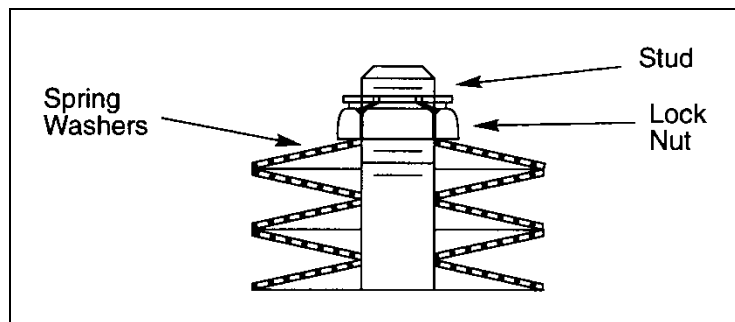

Figure 1 - Spring Washer Arrangement
4. Place the pointer, wrenching square, spring washers, and locknut on the stud on the top of the actuator. Stack the spring washers in series as shown in Figure 1.